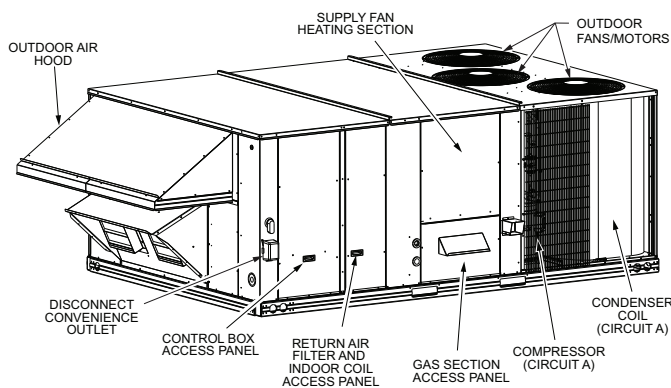

Fig. 1 — Access Panels and Components, Front
Figures 1 and 2 show general unit arrangement and access locations.
Return air filters are disposable fiberglass media type. Access to the filters is through the small lift-out panel located on the rear side of the unit, above the evaporator/return air access panel. (See Fig. 1.)
1. Remove the return air filter and indoor coil access panel. See Fig. 1.